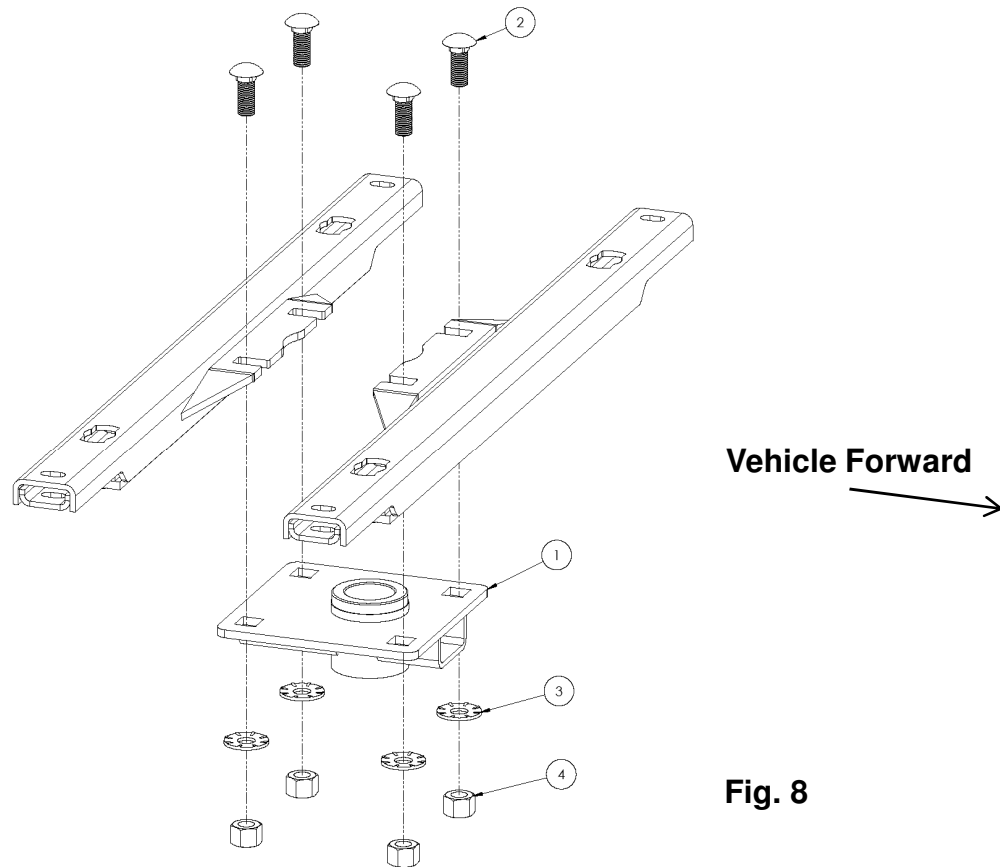

Fig. 8
3. Place the REESE® Elite™ Series Gooseneck Hitch under the truck (As shown in figure 8) using the ¾" carriage bolts (2) slide them into place through the openings in the rail kit.